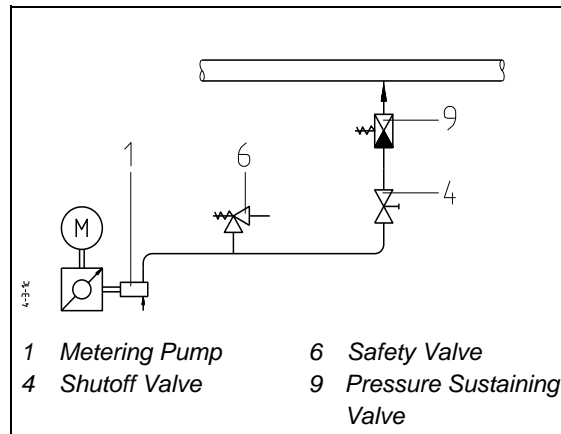

Fig. 4.4: Pressure Sustaining Valve
**Installation of the Pressure Sustaining Valve (Fig. 4.4)**